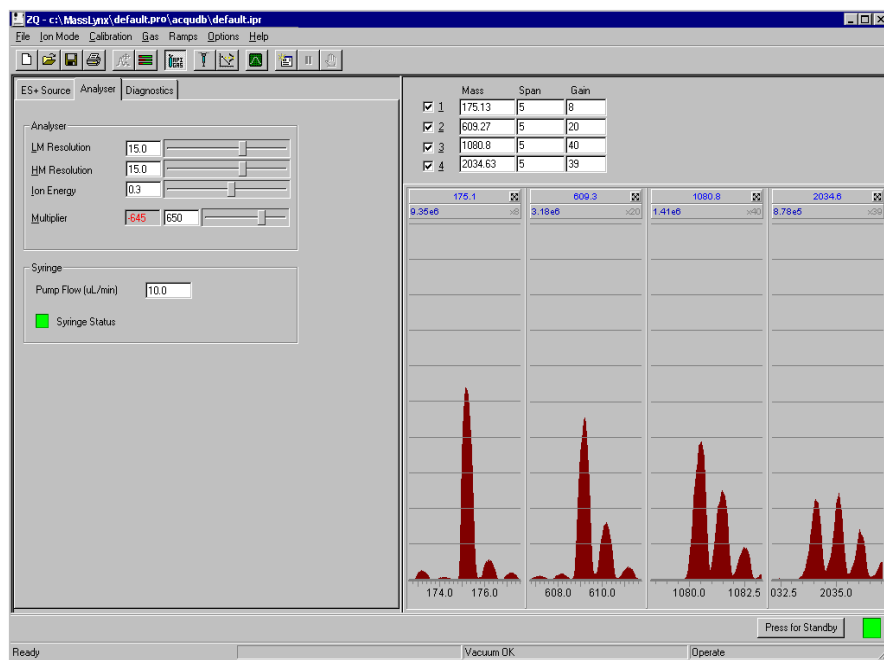

Figure 3-5 Tune Window Displaying the Analyser Page
7. Set the syringe pump to deliver 10 $\mu\text{L}/\text{min}$ by entering that rate in the Pump Flow field of the Analyser page (Figure 3-5).
1. Click the **Analyser** tab. The Tune window Analyser page appears (Figure 3-5).